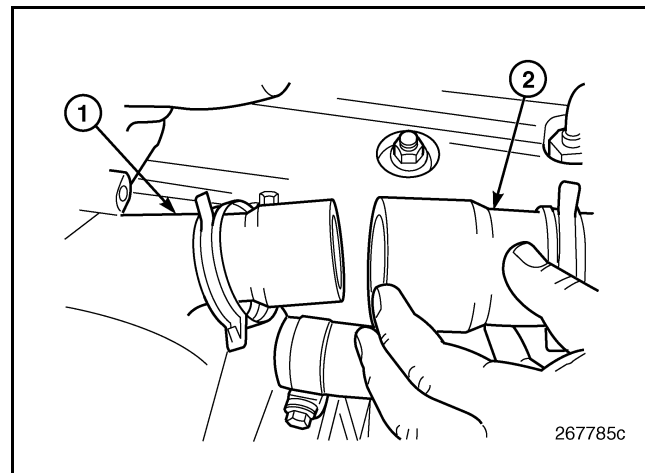

Figure 137 — Cool Tube Coupling Hose Removal
- Remove the cool tube and coupling hoses from the engine (Figure 137). Inspect the tube for corrosion or damage and the hoses for deterioration. Replace as required.